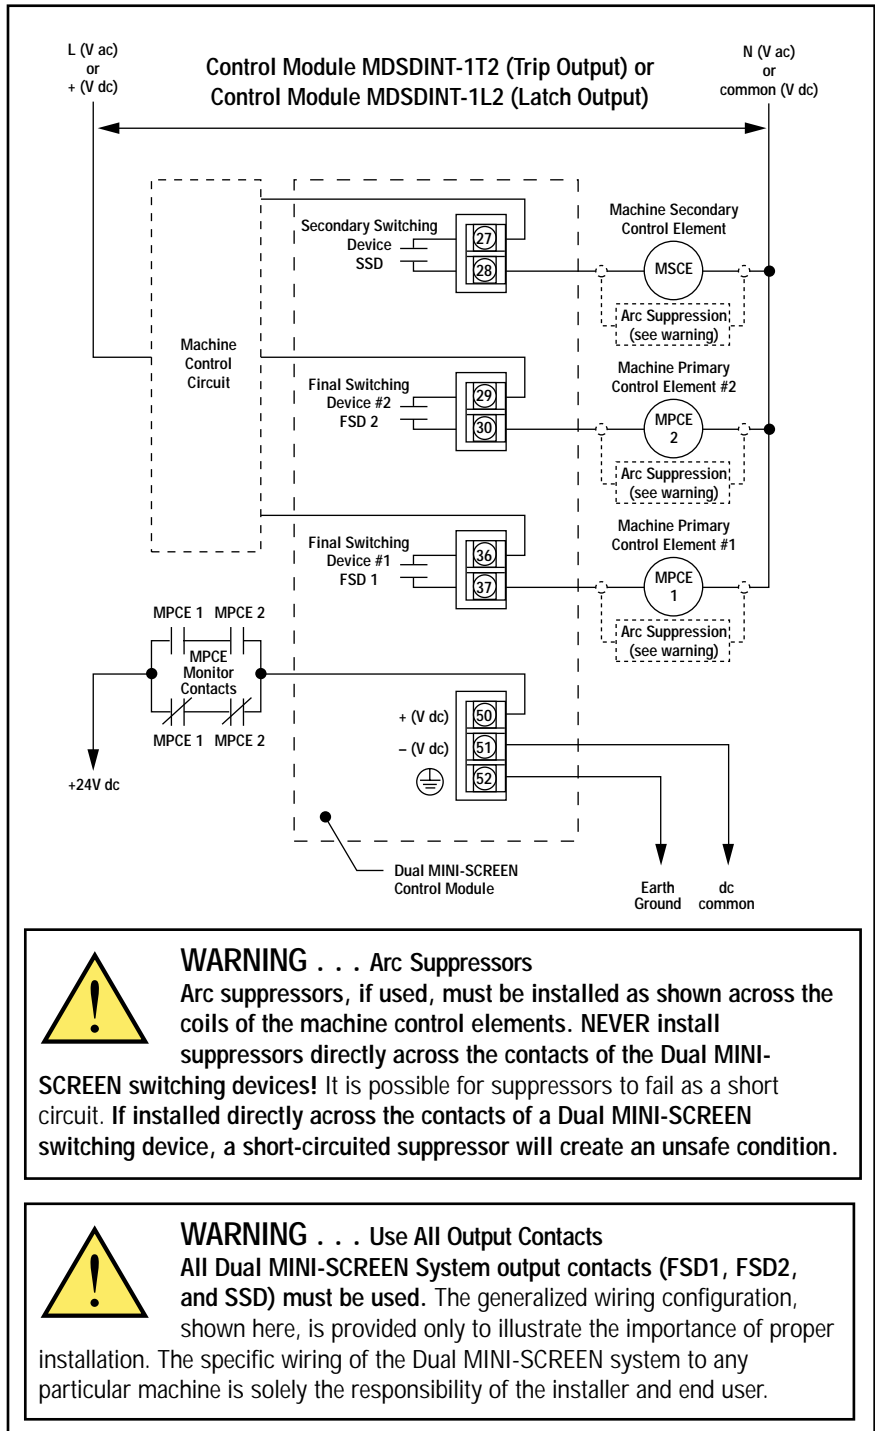

Figure 23. Generic machine interface, Dual MINI-SCREEN System
As shown in Figure 23 (page 33), the power supply lines to the control module connect through the MPCE monitor contacts of the guarded machine. **However, do not wire to the MPCEs at this time.** Instead, temporarily connect power directly to the control module. Connect earth ground at terminal 52. This will allow the Dual MINI-SCREEN System to be checked out, by itself, before permanent power connections through the guarded machine's monitor contacts are made. Permanent power connection will be made after Dual MINI-SCREEN System initial checkout, and is covered in Section 3.5.7.
Output relay connections are made at the **FSD1** (Final Switching Device 1), **FSD2** (Final Switching Device 2), and **SSD** (Secondary Switching Device) terminals on the control module (Figure 23). These relays are energized (contacts closed) in normal operation with no obstructions in the defined area. **All** relays become de-energized (their contacts open) in a lockout condition. Relays **FSD1** and **FSD2** (only) de-energize in a trip or latch condition. Before continuing, read **NOTICE regarding MPCEs**, below, right.
**The FSD1 output relay** connects to Machine Primary Control Element #1 (MPCE 1) on the guarded machine. MPCE 1 is an electrically powered element of the guarded machine that directly controls the normal operating motion of the machine in such a way that it is last (in time) to operate when motion is either initiated or arrested. The output contact of relay FSD1 must be connected, as shown in Figure 23, to control power to Machine Primary Control Element #1. The switching capacity of relay FSD1 is 250V ac max., 4 amps max. (resistive load).
**The FSD2 output relay** connects to Machine Primary Control Element #2 (MPCE 2) on the guarded machine. MPCE 2 is an electrically powered element of the guarded machine (in a different control path than MPCE 1) that directly controls the normal operating motion of the guarded machine in such a way that it is last (in time) to operate when machine motion is either initiated or arrested. The output contact of relay FSD2 must be connected, as shown in Figure 23, to control power to Machine Primary Control Element #2. The switching capacity of relay FSD2 is 250V ac max., 4 amps max. (resistive load).
**The SSD output relay** connects to the Machine Secondary Control Element (MSCE) on the guarded machine. The MSCE is an electrically powered element of the guarded machine (independent of the MPCEs) that is capable of removing power from the prime mover of the dangerous part of the machine in the event of an emergency. The output contacts of the SSD relay must be connected, as shown in Figure 23, to the Machine Secondary Control Element such that, if a lockout condition occurs, the motive power will be removed from the machine. The switching capacity of the SSD relay is 250V ac max., 4 amps max. (resistive load).
Some machines offer only one primary control element. For such machines, it is necessary to duplicate the circuit of the single MPCE to add a second machine primary control element (per ANSI B11, Section 5.5 "Control Reliability"). Refer to Figure 23 (page 33) or consult the machine manufacturer for additional information.
Figure 23 (below) shows output relay connections in a generic interfacing situation. The connections between the Dual MINI-SCREEN System outputs and the machine primary and secondary control elements must be direct, and arranged so that any single line fault or earth fault will not result in a circuit failure to a potentially dangerous state.
It is strongly recommended that one normally open and one normally closed auxiliary contact of each MPCE be wired (as shown in Figure 23, page 33) as MPCE monitor contacts. If this is done, any inconsistency of action between the two MPCEs will remove power from the Dual MINI-SCREEN System, causing a lockout condition. ***The use of MPCE auxiliary contacts as MPCE monitor contacts is necessary in order to maintain redundancy.*** MPCE auxiliary contacts used for this purpose must be rated at 55 VA minimum.
**In order to maintain redundancy, the MPCE monitor contacts must be wired as described in section 3.5.6 and Figure 23, page 33.**